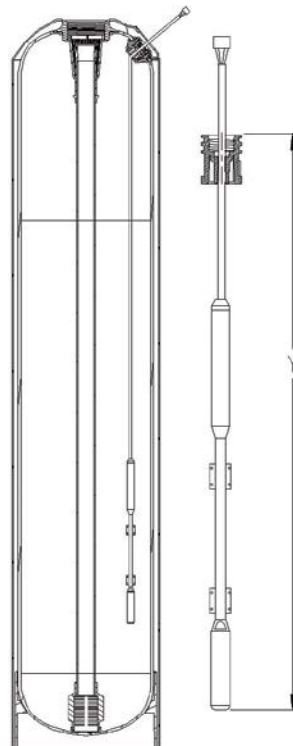

Figure 2. HE 1.25 Softener tank.
3. Install the outlet manifold into the tank (Figure 2).
1. Measure the sensor cable length as shown in Figure 2 and Table 1 (the Aqua-Sensor cord is set at the factory for a 9" tank).